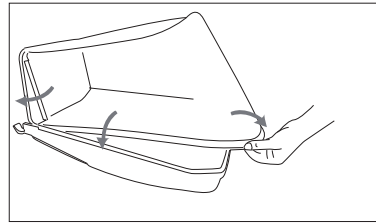

Fig 4
2. Assembling the hybrid collection box.(Fig 4, 5, 6)